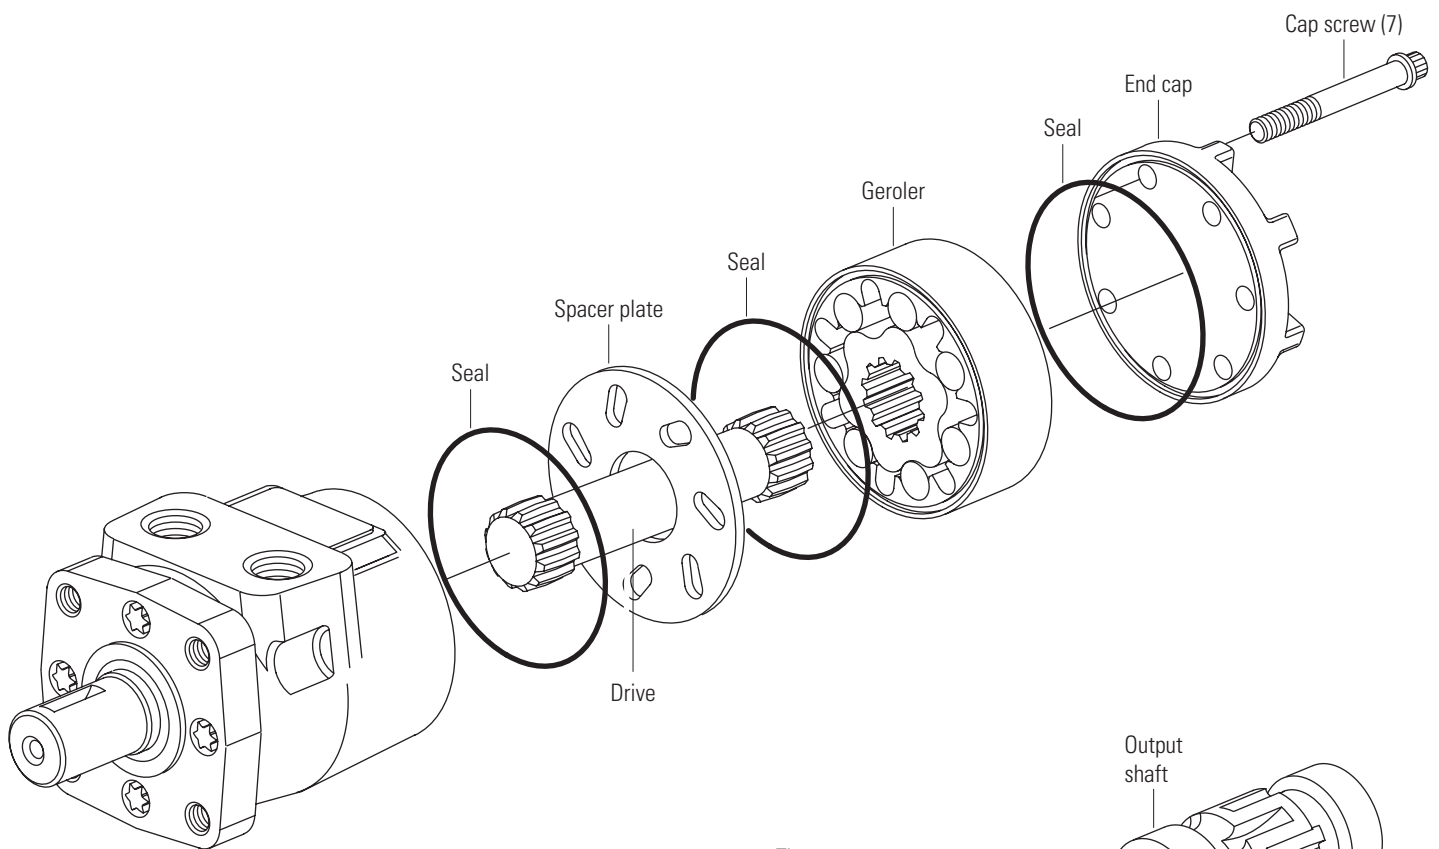

Figure 1
2. Remove the seven cap screws from the end cap and disassemble the motor as shown in Figure 1. Do not disassemble the Geroler